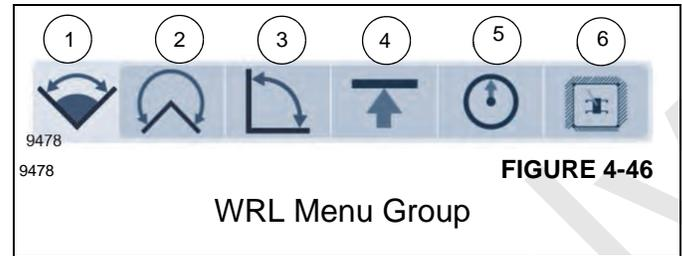

FIGURE 4-46
The WRL Menu Group (1, Figure 4-46) and sub-menu (2 thru 6) allows the operator to set limits on the location of the boom.
The following limitations are available under the WRL Menu Icon (1, Figure 4-46) as noted below. The number next to the limitation indicates the Menu Limitation Icon reflective of that group as shown in Figure 4-46.
When a limitation is active, and the boom has reached the requested limit position, the ODM shows a red-colored alert indicator for the limitation, again with a symbol for the particular type of limitation (refer to Figure 4-46 for the WRL Menu Icons). In this condition, audible alarms, as well as stopping of crane functions (if Lock-Out Function is used) will also be apparent. For example, for this condition, the following red Icon (shown below) would appear for the swing limitation:
The WRL Group is made up of five (5) WRL Function Icons. To enable and define a limitation, access the related WRL Function Icon in the WRL Group (Figure 4-46).
To access the WRL Function Icon Screen, the Menu Function is used with the display. Once the Main Menu screen is shown, the WRL limitations are shown as a group, and one of the limitations can then be selected to work with that limitation screen. To move to the Icon you wish to select, use the Arrow Keys on the Navigational Control Pad or the Jog Dial to move to the corresponding Function Icon you wish to set the limitation on as shown in (Figure 4-46).